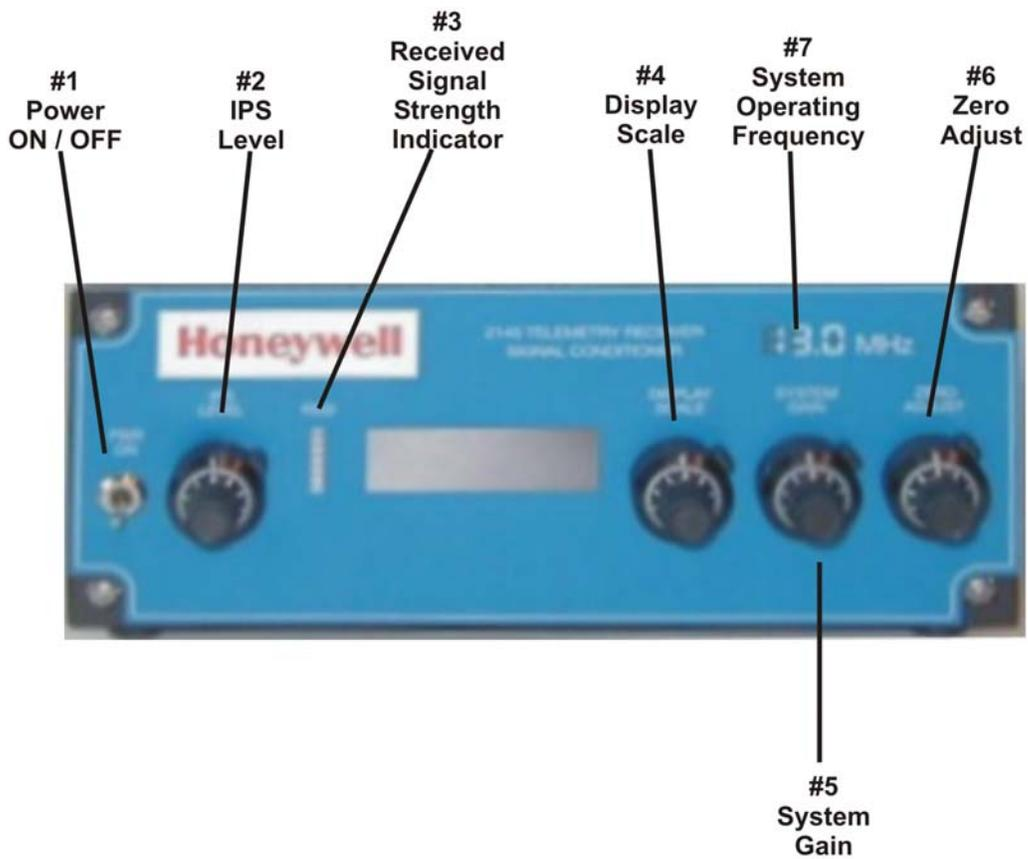

Figure 2-2. Model 2145 Data Telemetry Receiver Front Panel
The Model 2145A Data Telemetry Receiver is illustrated in Figure 2-2. This figure shows the controls, displays, display adjustment, and induction power adjustments. The frequency of the receiver is marked in the upper right-hand corner of the front panel for easy match to the transmitter in multiple (up to ten) channel installations. The RSSI (Received Signal Strength Indicator) identifies when an operating transmitter matches a receiver and that the
The Model 2145A Data Telemetry Receiver Front and Rear Panels are shown in Figures 2-2 and 2-3.
- a. PWR ON – Power switch which turns on power to the receiver and to the system. Figure 2-2 (1).
- b. IPS LEVEL – Controls the DC Voltage level of the Induction Power Source used to supply power to the transmitter. Figure 2-2 (2).
- c. RSSI – Received Signal Strength Indicator. Bar graph indicator which provides a relative value of received signal strength from the transmitter used to validate transmitter operation. Figure 2-2 (3).
- d. DISPLAY SCALE – Used to set the display to engineering units to represent a specific application. Figure 2-2 (4).
- e. SYSTEM GAIN – Used to set the voltage level of the Analog Data Out during system calibration. Figure 2-2 (5).
- f. ZERO ADJUST – Used to correct signal offsets from the strain gage bridge. Will handle $\pm 50\%$ of full scale sensor unbalance. Figure 2-2 (6).
- g. Receiver operating frequency identification in megahertz. See Figure 2-2 (7). (Not a control or adjustment – reference only).